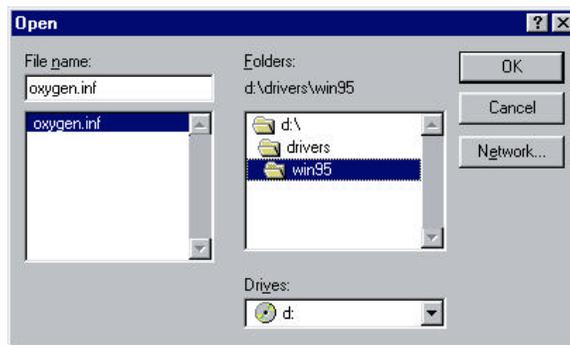

Figure 10: Open Window
9. In the Open window (Figure 10), choose your CD-ROM drive, usually “D:\”, from the “Drives” listbox at the bottom of the window. Double-click on the *DRIVERS* folder and you will see a list of folders named for the corresponding operating systems that Oxygen supports. Double-click on the *WIN95* folder.